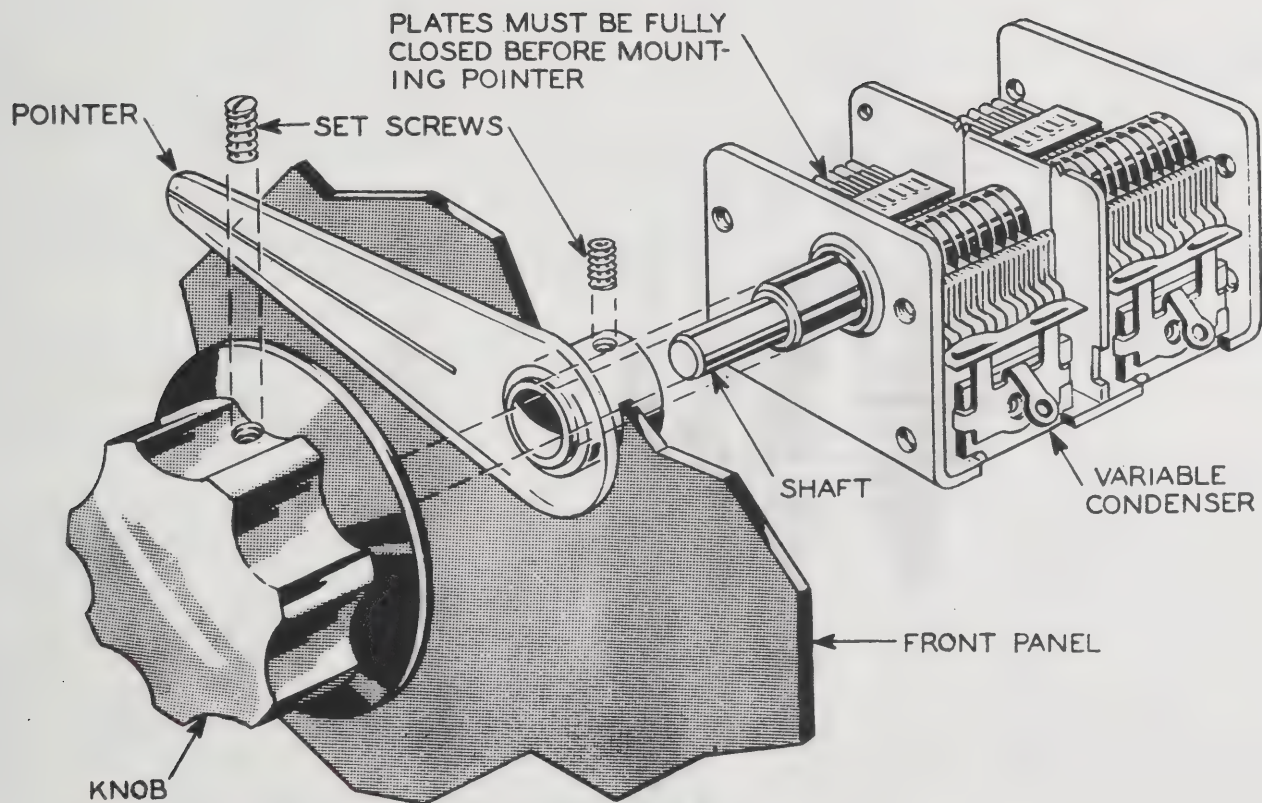

FIGURE 18 HOW TO ASSEMBLE THE DIAL POINTER AND KNOB
- () Close the plates of the tuning condenser, C-3, entirely. Place the dial pointer on the shaft of the tuning condenser. Line up the black line on the pointer with the horizontal line along the bottom of the scales on the left side. Tighten the set screw against the shaft of C-3. Push the large knob on the shaft and tighten the set screw. See Figure 18.